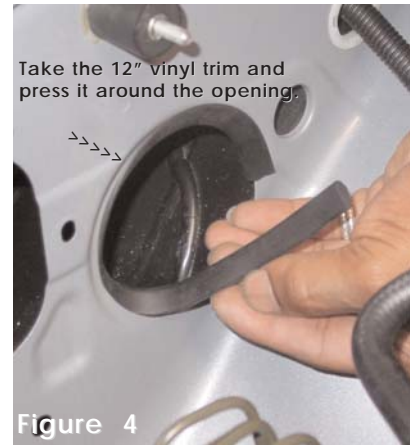

Figure 4
- 4- Take the 12" vinyl trim and press it around the opening of the resonator opening. This will prevent any damage to the intake do to sharp edges in the resonator opening, in-doing so, this will enhance the life of the cold air intake. (See fig. 4)